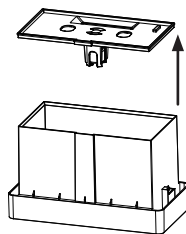

Figure 3
4. Remove the cover from the tank as shown in Figure 3. Drain the collected condensate.